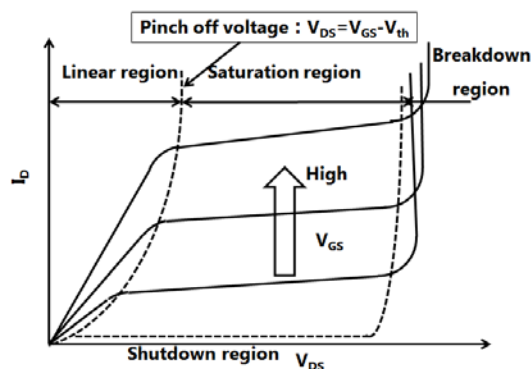

Figure 1.1 Operating Regions of a MOSFET
- (1) The on-state resistance of MOSFETs is low when they operate in the linear region (i.e., at a voltage lower than pinch-off voltage). Therefore, for switching applications, you can reduce the on-state resistance by using MOSFETs in the low V_{DS} region (Figure 1.1). This helps reduce power loss. Note that the amount of current that MOSFETs can handle is limited by the value of V_{GS} .